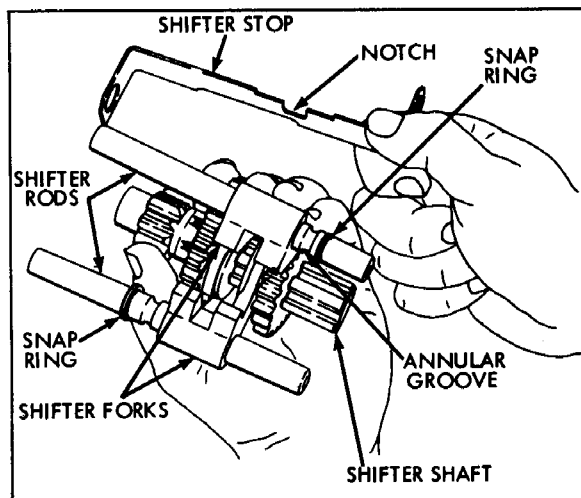

Figure 3-8
Follow the illustrations in order. Figures 3-8, 3-7, 3-6, 3-5, 3-4, 3-3. Prior to disassembly compare the assembly with the illustrations. This will aid during the reassembly.
- a. Replace the shifter stop if worn or damaged, Fig. 3-8.